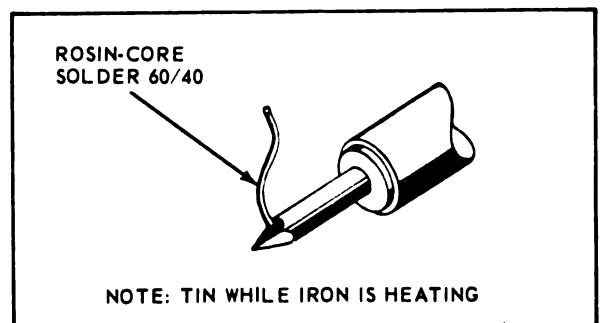

Figure 9-4. Tinning Soldering Iron Tip
b. Plug in the iron and apply cored solder just as the bright dressed copper color is turning to a pigeon-blue, bronze, oxide color. This will allow the flux to "wet" and clean the working area when the solder melts to form an even bright silver coating on the tip. (See figure 9-4.)